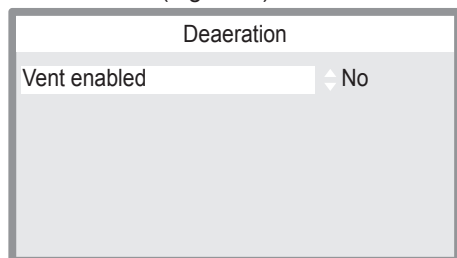

Fig. 7.10
- Press key 15 (Fig. 7.4) to access the selected menu (Fig. 7.10).